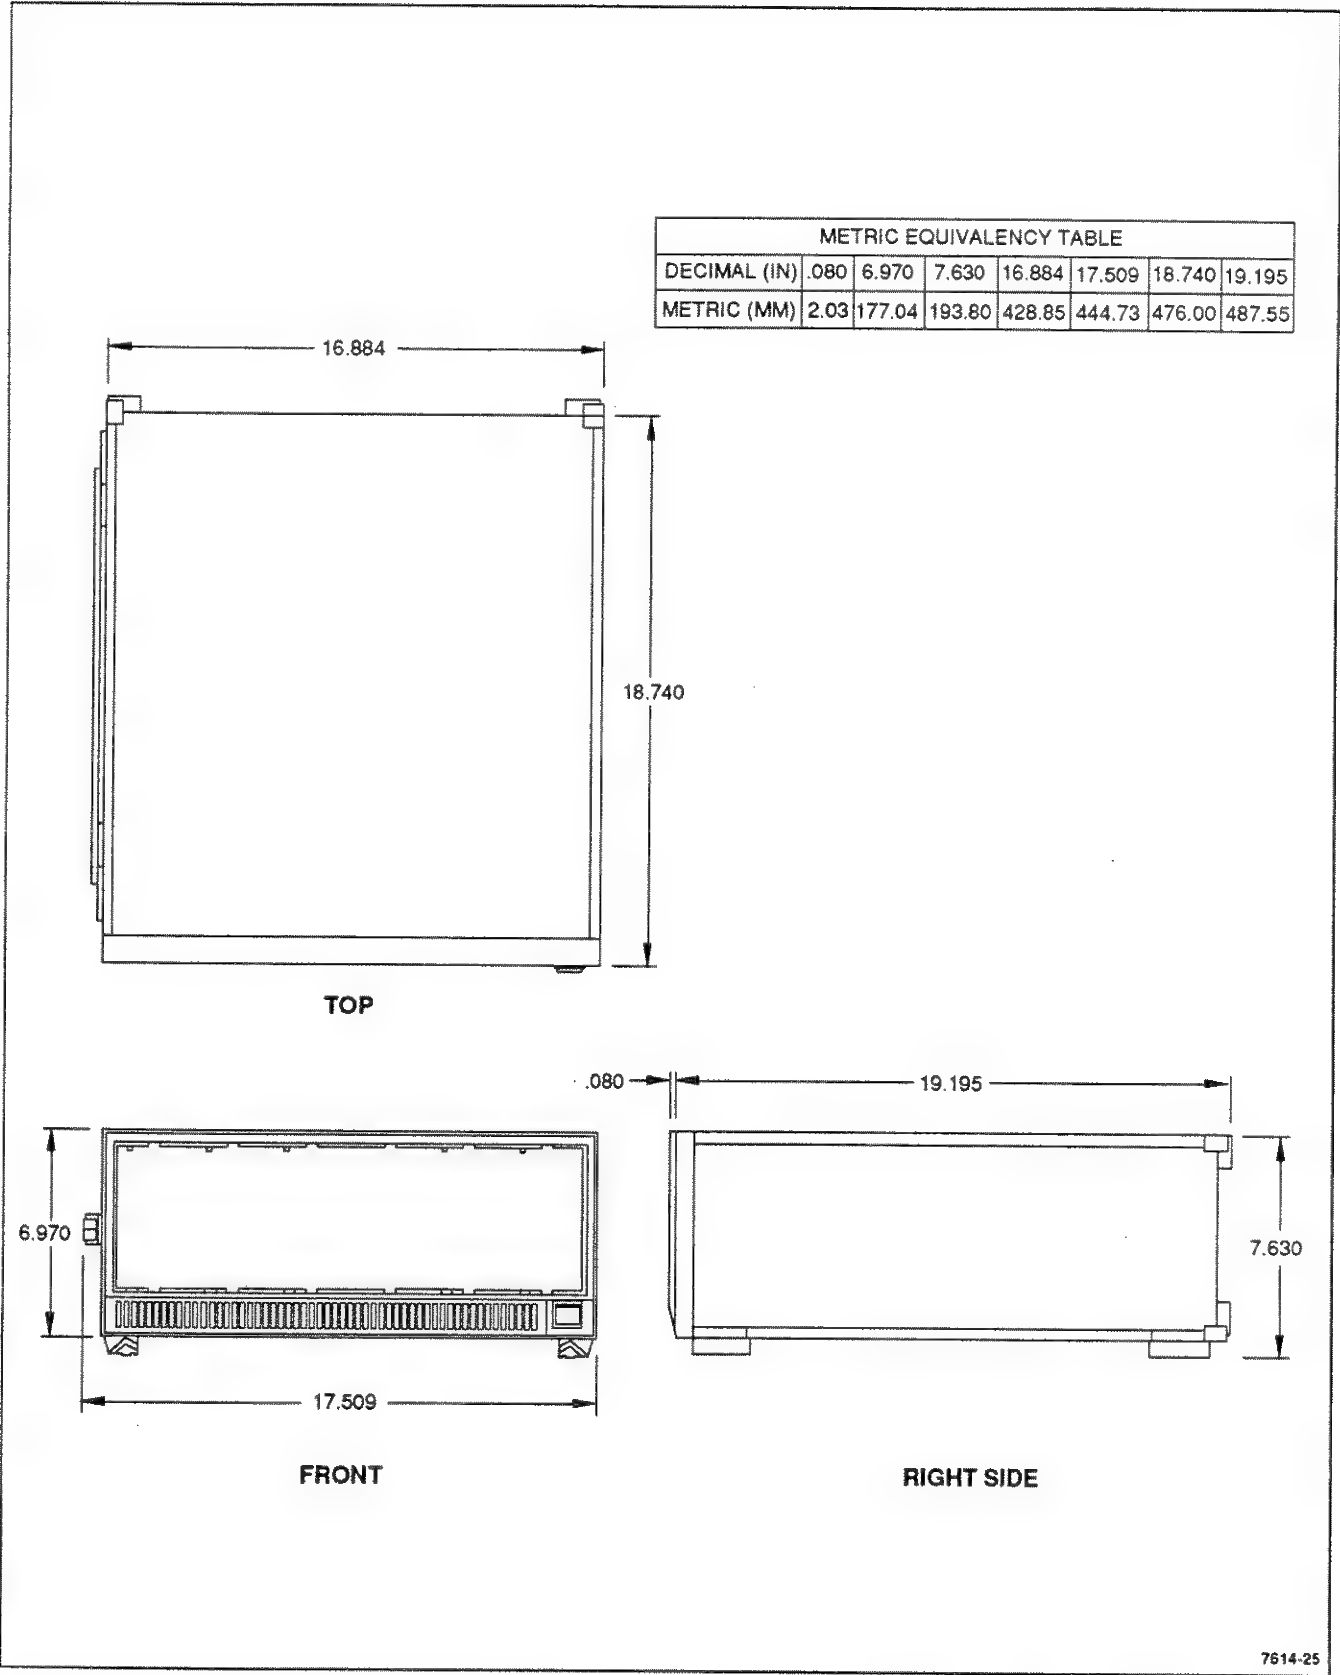
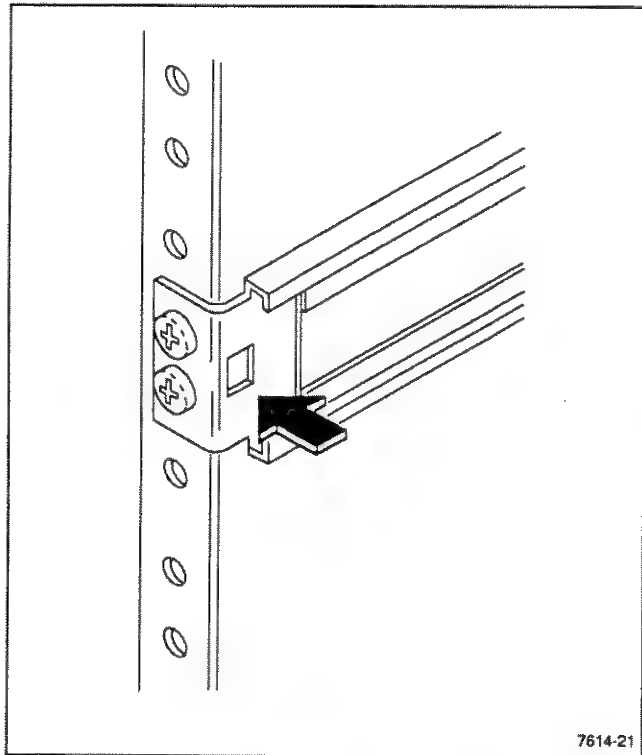

Fig. 2-4. TM 5006A overall dimensions.
Fig. 2-5. Rack latch hole.
**Rack Dimensions.** The TM 5006A, Option 10, is shipped from the factory ready for rack mounting. Figure 2-4 shows major dimensions. Figure 2-5 shows the spring-latch cutout in the stationary section.